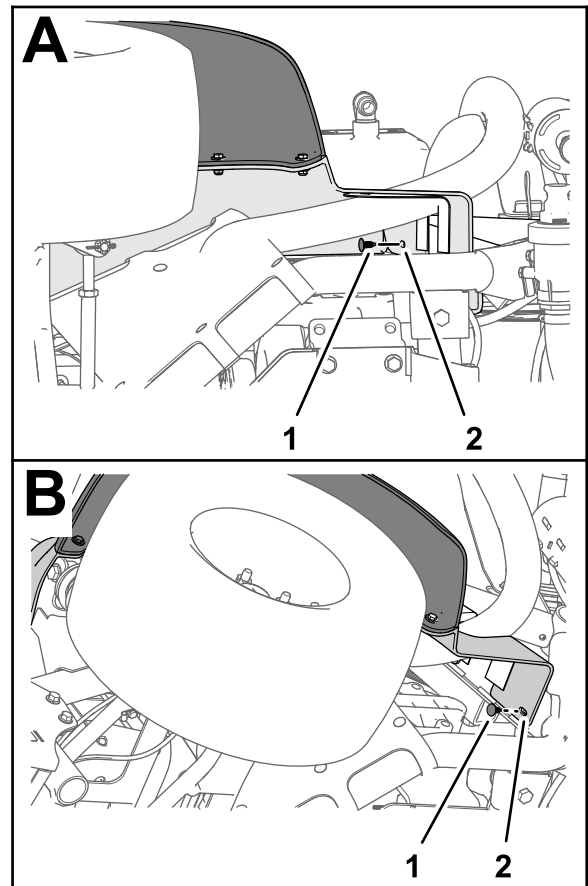

Figure 8
1. Remove the 2 push-in fastener that secure the left, front fender to the lower ROPS channel (Figure 8).